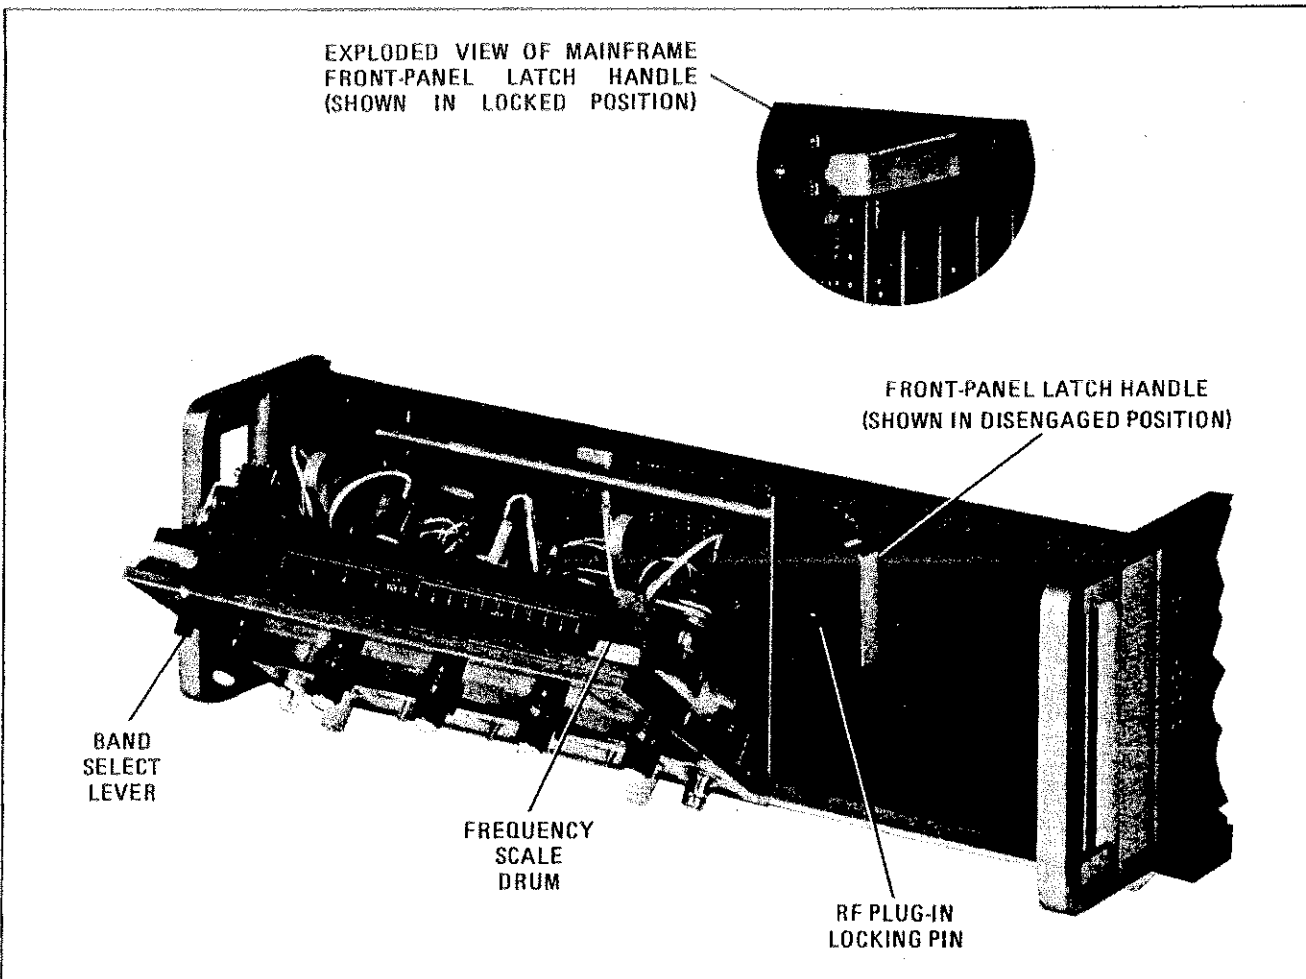

Figure 2-1. Location of Mainframe Parts Pertinent to Frequency Scale and RF Plug-in Installation
- a. Disengage mainframe front-panel latch handle, shown in Figure 2-1, by pushing downward on handle while pushing inward lightly on top of front panel.
- c. Depress mainframe front-panel BAND select lever, shown in Figure 2-1, to rotate frequency scale drum until desired scale position is accessible.
- f. Return front panel to upright (closed) position, and, while pushing inward lightly on top of front panel, re-engage front-panel latch handle by pushing it upward to lock position as shown in Figure 2-1, exploded view.
- c. Slide RF Plug-in into mainframe towards rear of compartment. RF Plug-in latch handle will engage a locking pin, shown in Figure 2-1, inside mainframe and exposed portion of latch handle will start to move downward.
- b. When exposed portion of latch handle is in a position perpendicular to RF Plug-in front panel, it is disengaged from locking pin (Figure 2-1) and RF Plug-in may be removed by pulling forward on latch handle.